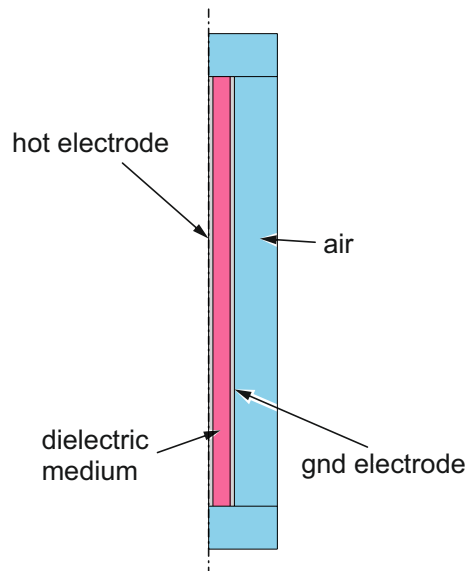

Figure 1: Domain regions of the capacitor model
- 1.11. Press *Build All Objects* again. The resulting geometry should look as in Fig. 1.